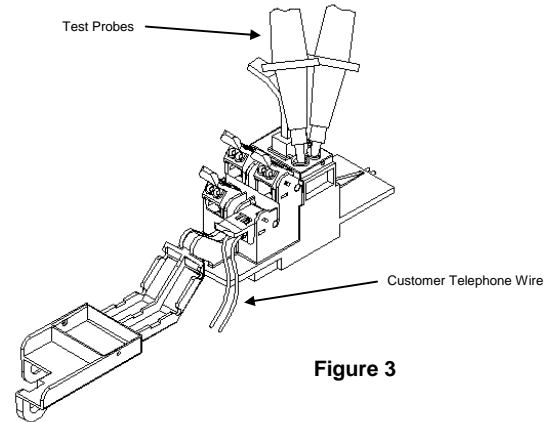

Figure 3
- Insert customer telephone wire into rocker wire guides as shown (see Figure 3).
- Using an ohmmeter, insert probes into test ports as shown (see Figure 3), and check for continuity.